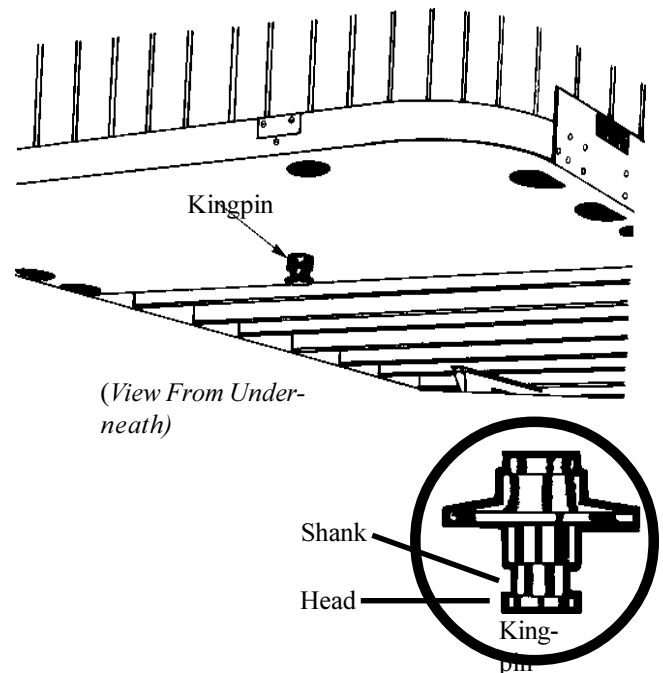

Figure 6-4 Trailer King-pin
- Make sure the fifth-wheel jaws have closed around the shank of the kingpin. (Figure 6-4)